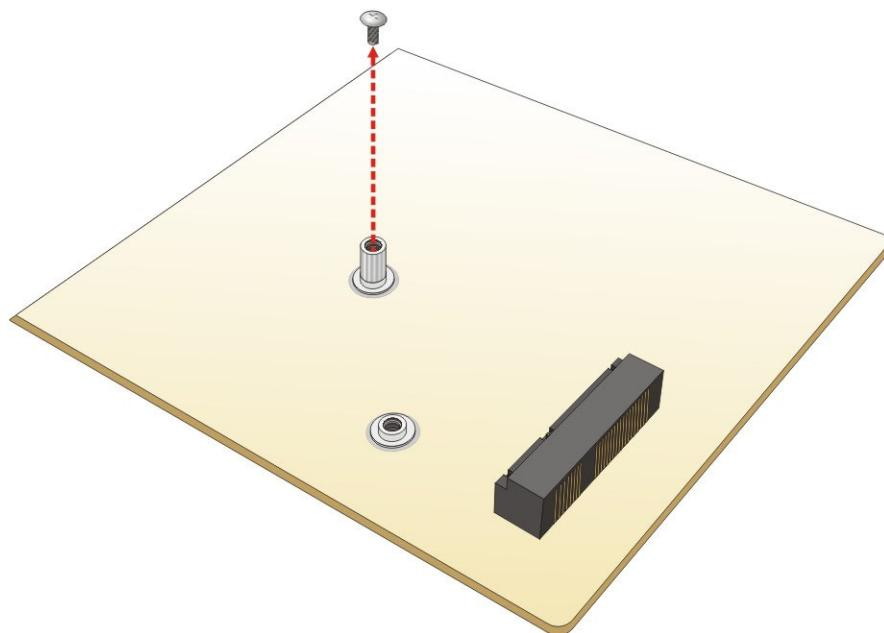

Figure 4-8: Removing the Retention Screw
Step 3: Remove the retention screw. Remove the retention screw as shown in Figure 4-8.